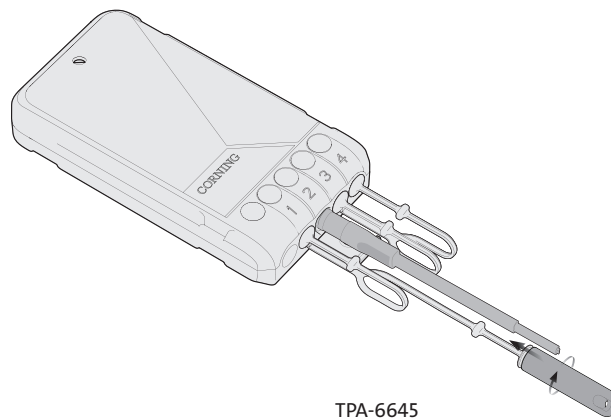

Figure 30
Step 4: Connect the terminal port dust plug with the connector dust cap (Figure 30).